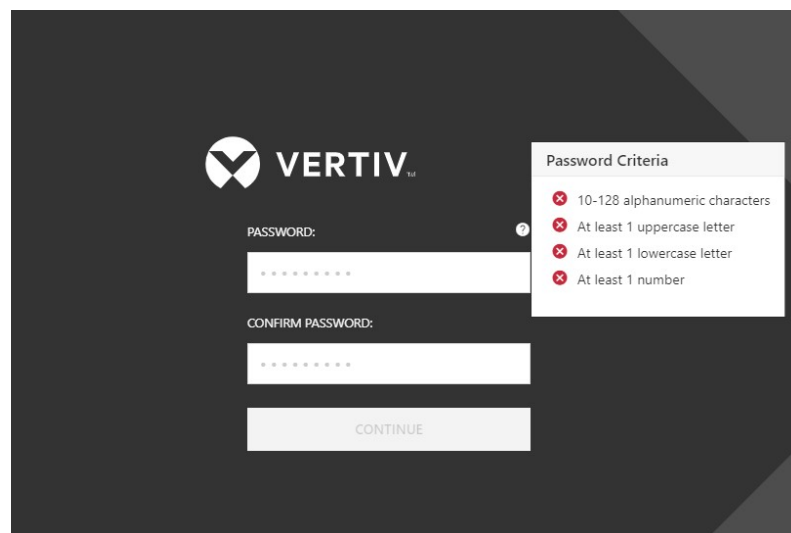

Figure 1-5 Setting the login password of the system administrator (admin)
3. After entering the correct email address and setting the system administrator's email address, the system redirects to the page for setting the system administrator's login password (user name: **admin**), as shown in Figure 1-5.